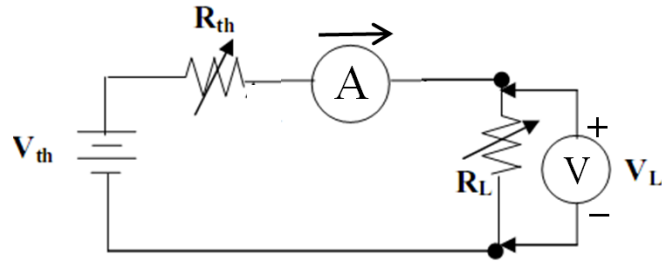

Figure 3-3
1. Set up the circuit as shown in **Figure 3-3**.